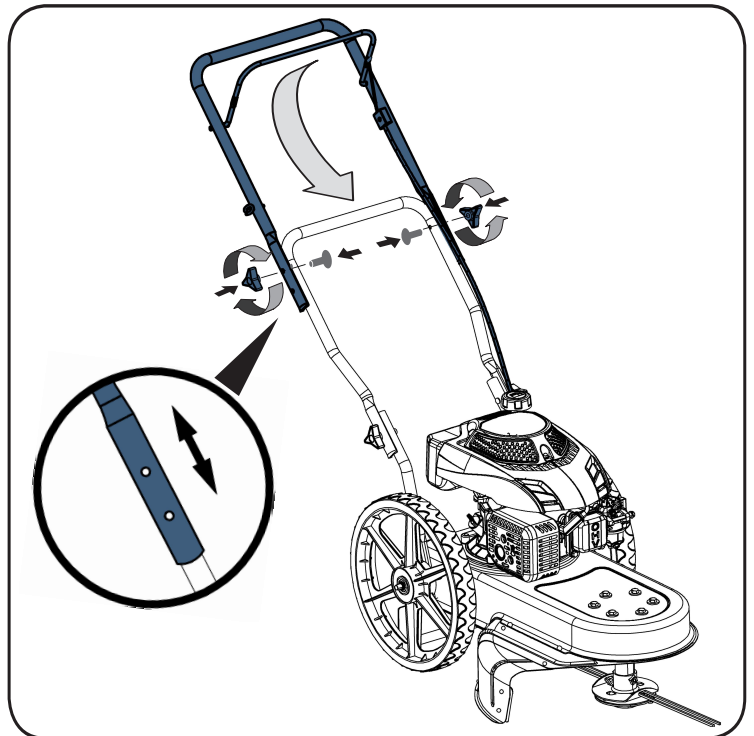

Figure 3-2
2. Find the upper handle and move the upper handle into one of two position by pivoting and fasten the middle handle. See Figure 3-2.